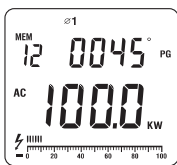

Figure 9
4. When measuring 3 phases 4 wires or 3 phases 3wires:(see figure 9, 10, 11, 12, 13, 14, 15)
- Press **SELECT** to choose first phase Ø1, see figure 9. The double displays show the active power kW value and also the PG value of Ø1.